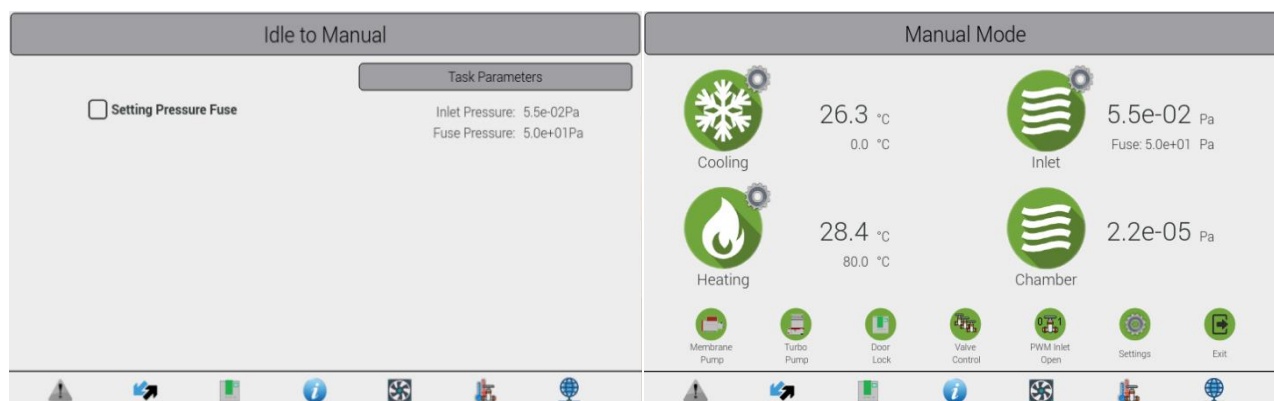

Figure 26: Pressure fuse setting and the switching to the main screen of Manual mode
After selecting the **manual mode** (**Figure 18**), the **pressure fuse** (**Figure 26**) is set and the screen switches to the main screen of the manual mode (**Figure 26**). Compared to the automatic mode, manual mode contains more variable functions.
- For vacuum control switch to Manual mode or Automatic mode - the number next to Chamber Icon indicates the actual value of the vacuum in the ion chamber and mass analyzer (**Figure 20, Figure 26**). The evacuation process can be more effective and faster if the vacuum chamber was baked before 80 °C - 90 °C. The heating of cross chamber walls causes gas molecules to release from the wall surface, then the time of evacuation is shorter. The baking can be monitored using MID analysis with water molecule measurement as the mass 18 (the setting and start of MID protocol is described in **Chapter 6.2.6.2**). The ion chamber is automatically baked after the device start from the state of shut down (**Figure 15**). In automatic mode, the ion source chamber cannot be baked, while in the manual mode the baking is controlled by the user (**Figure 28, Figure 29**).